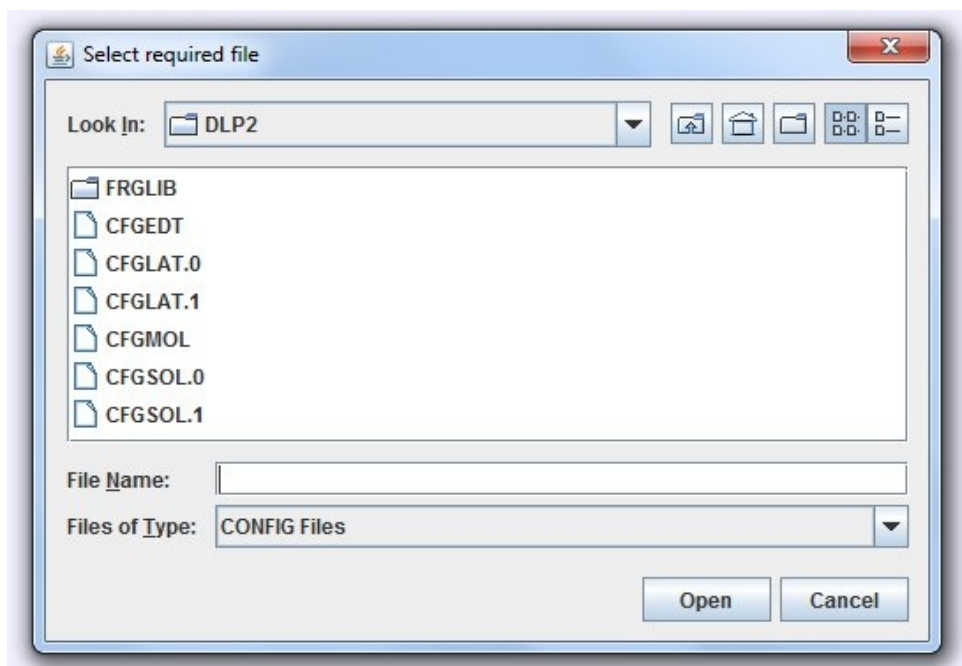

Figure 3. A Typical File Browser.
- **New** - opens a file browser (see Figure 3) for the user to select a new configuration file for viewing. This button assumes the configuration file is a DL_POLY CONFIG or REVCON file, but other formats can be processed (see later). The GUI normally performs some pre-selection of the files appearing in the browser to reduce the risk of improper selection.
Selecting one of these will cause the GUI to open a file browser (Figure 3) to enable your selection. (It is analogous to the operation of the **New** button on the Molecular Editor.) The file browser will perform some pre-filtering of file types, based on your sub-menu selection. DL_POLY CONFIG files are assumed to have the 'CFG' prefix in the file name (see examples in Figure 3). Note that only